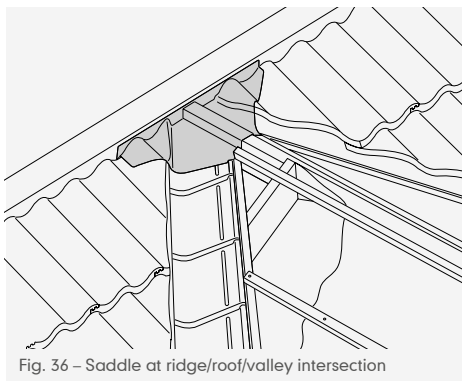

Fig. 36 – Saddle at ridge/roof/valley intersection
- 2 Saddles should be capable of being readily dressed down when in position (Figs. 36 and 37).